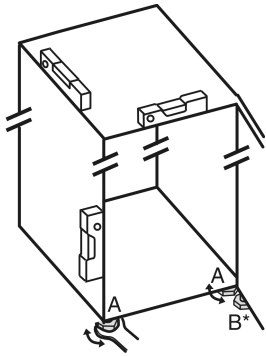

Fig. 3
- ▶ Unscrew the adjustable feet Fig. 3 (A) using the open-end wrench provided and a spirit level until the appliance is firmly aligned and level.
- ▶ Unscrew the adjustable foot Fig. 3 (B) at the swap bearing block using the open-end wrench provided until it rests on the floor.
- ▶ Turn the adjustable foot Fig. 3 (B) another 90°.